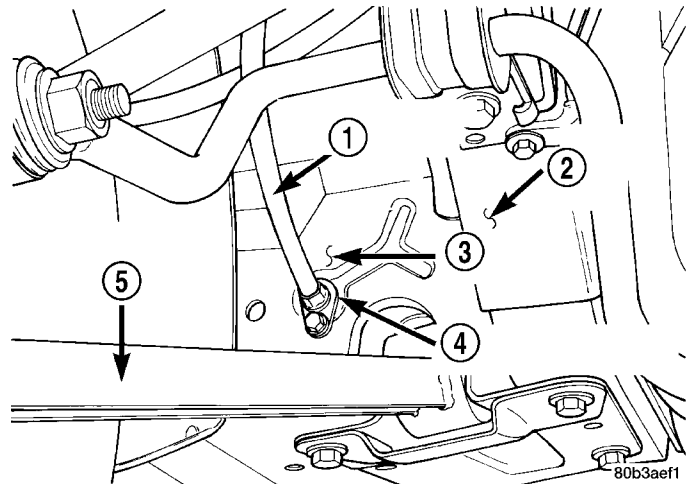

Fig. 99 Cable At Torque Box
(2) Install the intermediate cable to the tensioner bracket by snapping it into place.
(3) Reinstall retainer clip on top of left side of crossmember, around intermediate cable and into place.
(4) Connect the intermediate cable to the right rear cable connector.
(5) Install the intermediate cable through the hole in the body torque box (Fig. 99). Install the bolt attaching the intermediate cable retainer to the body torque box.
(6) Connect the intermediate cable to the front cable connector.
(7) Adjust parking brake. (Refer to 5 - BRAKES - BASE/PARKING BRAKE - ADJUSTMENTS)
(8) Lower the vehicle.
(1) Raise the vehicle using a frame contact type hoist or correctly supported on jackstands. See Hoisting in Lubrication and Maintenance.
(2) Loosen the park brake cable tensioner adjuster nut until tension is removed from cables.
(3) Disconnect the cable connector between the front and intermediate cable.
(4) Remove the bolt attaching the intermediate cable retainer to the body torque box (Fig. 99).
(5) Remove the intermediate cable from the body torque box (Fig. 99).
(6) Remove the connector from the intermediate cable at the right rear park brake cable.